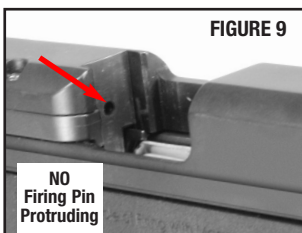

FIGURE 9
- Examine the breech face (FIGURE 9) to ensure that the firing pin is not protruding from the breech face (FIGURE 10). If the firing pin is protruding, do not attempt to load or fire the firearm. Bring the firearm to a gunsmith qualified to perform service on Smith & Wesson® firearms.